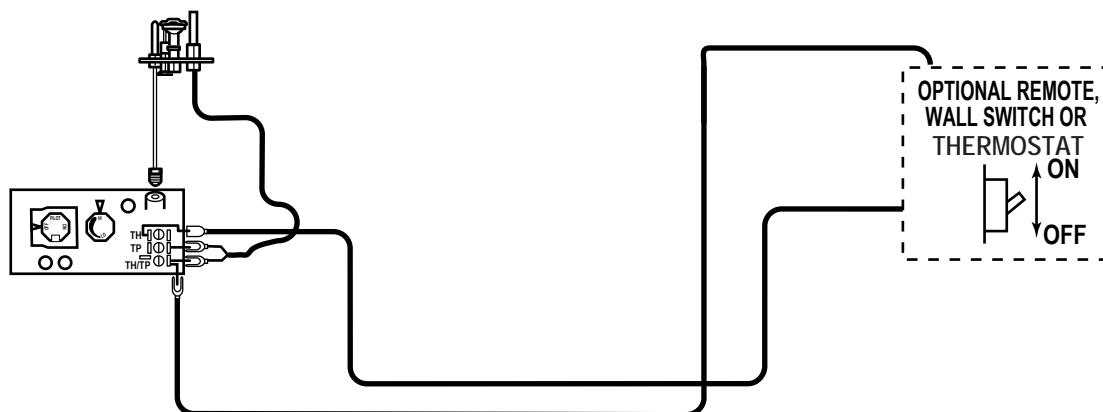

Figure 35 - Wiring Diagram for Wall Switch
A remote wall switch and up to fifteen (15) feet of 18 Ga. wire may be used with this appliance. Attach the wall switch in a junction box at the desired location on the wall. *See Figure 35*. Do not extend beyond the wall switch wire length provided.